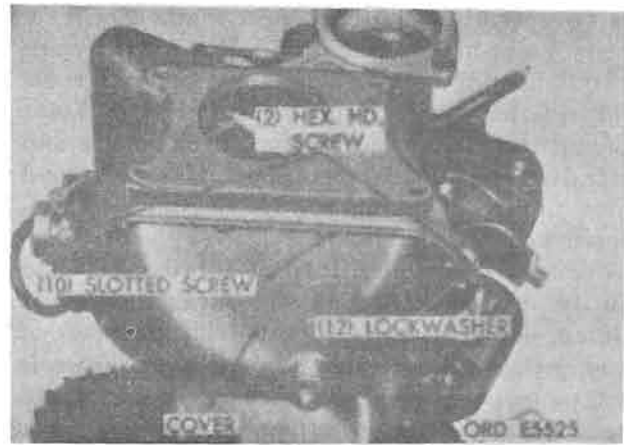

Figure 15-3. Flywheel housing cover and retaining screws.
c. Remove ten slotted head screws and lockwashers, and two hexagon screws and lockwashers securing flywheel housing cover (fig. 15-3). Remove cover. Discard gasket.